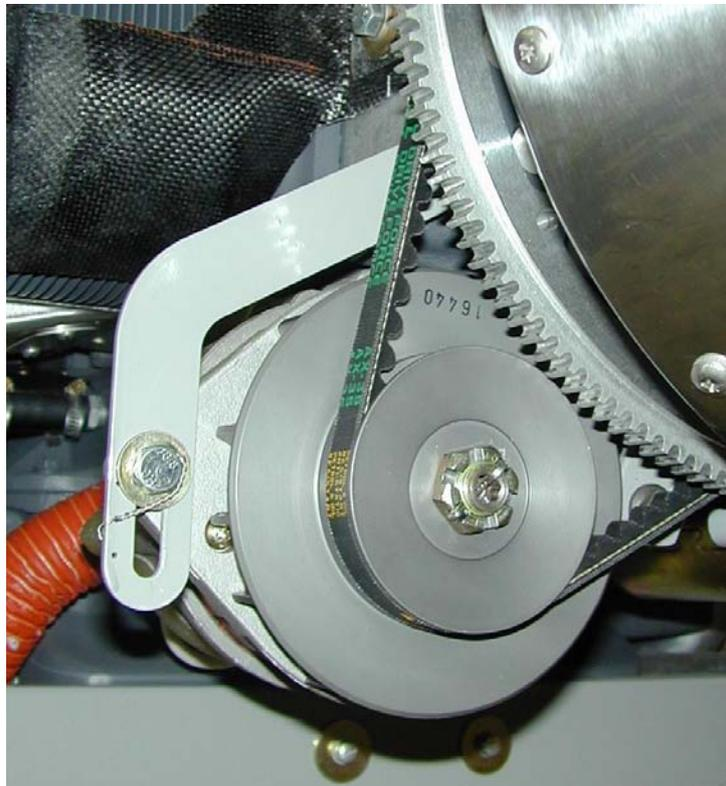

Figure 3
- 1.12. Tension the alternator belt in accordance with Lycoming Service Instruction No.1129B as per Section 24-00-55 of the GA8 Service Manual. Lockwire the bolt securing the alternator stay to the alternator body in accordance with FAA publication AC 43.13-1B – refer to Figure 3.